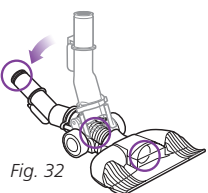

Fig. 32
- Straighten out the neck and look inside the tube at the top of the nozzle. Check for blockages where the hose bends and in the intake opening. (Fig. 32)